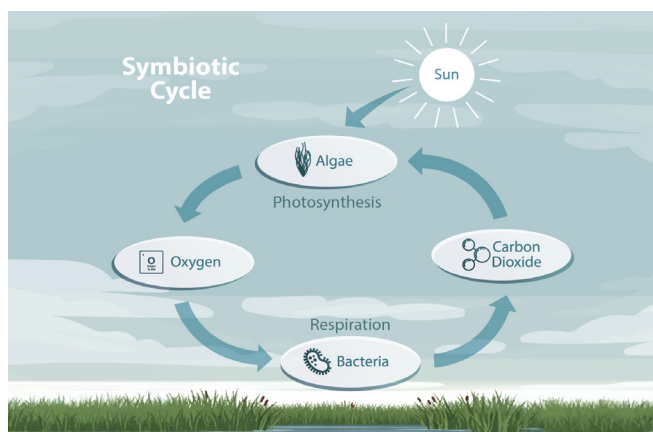

Figure 9. Chemical Processes: Photosynthesis and Respiration.
- **Algae Growth and Photosynthesis:** In facultative lagoons, the upper layers may support the growth of algae. These algae, through photosynthesis, produce oxygen during the day, which helps aerobic bacteria break down organic matter. Algae can also help absorb nutrients like nitrogen and phosphorus, although excessive algae growth can lead to problems such as nutrient imbalances or odors (Figure 9).